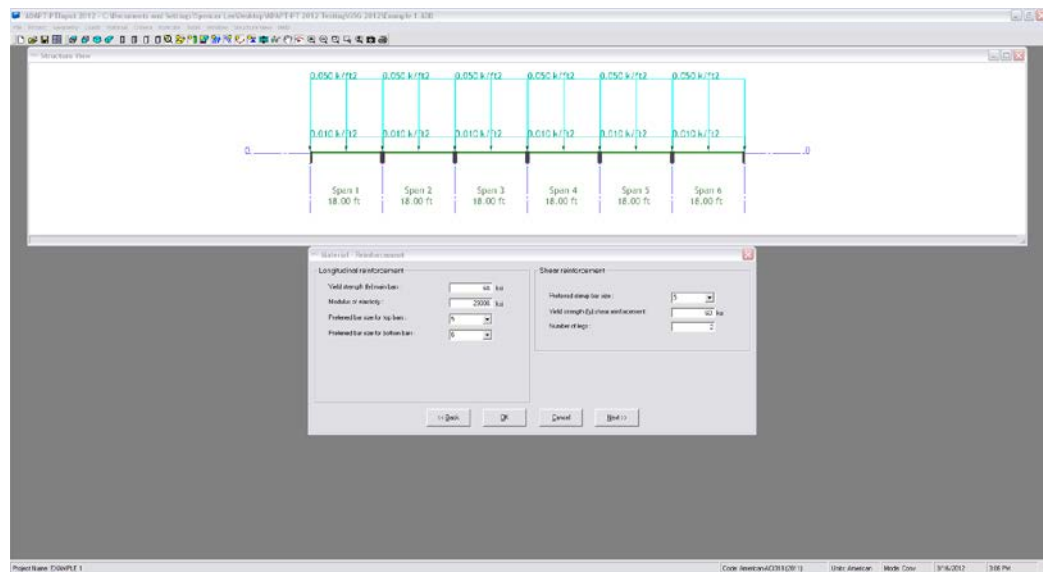

FIGURE 2.1-11
2.1.4.2 Enter The Properties Of Reinforcement (Fig. 2.1-11)